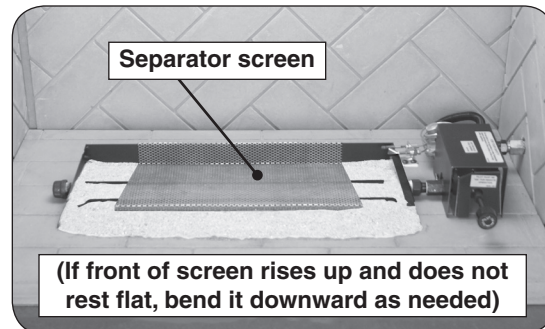
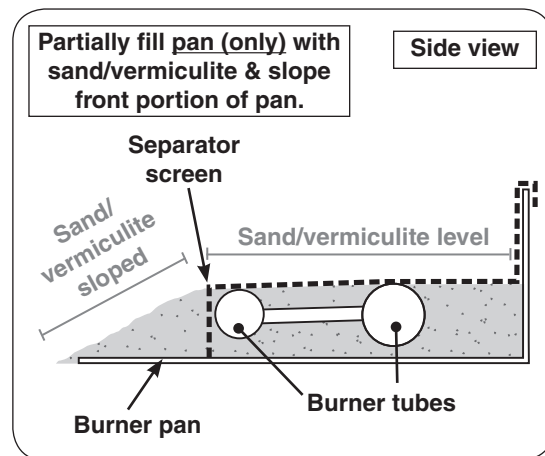

Fig. 21-2 Place screen
Fig. 21-3 Sand/vermiculite & screen detail
- Slope the sand/vermiculite in the front portion of the pan (see Fig. 21-3).
- Place the separator screen over the sand/vermiculite and pan. The rear of the screen must hook over the rear of the burner pan as shown in Fig. 21-2 and Fig. 21-3. If the front of the screen rises up from the floor of the pan, bend it downward as needed.